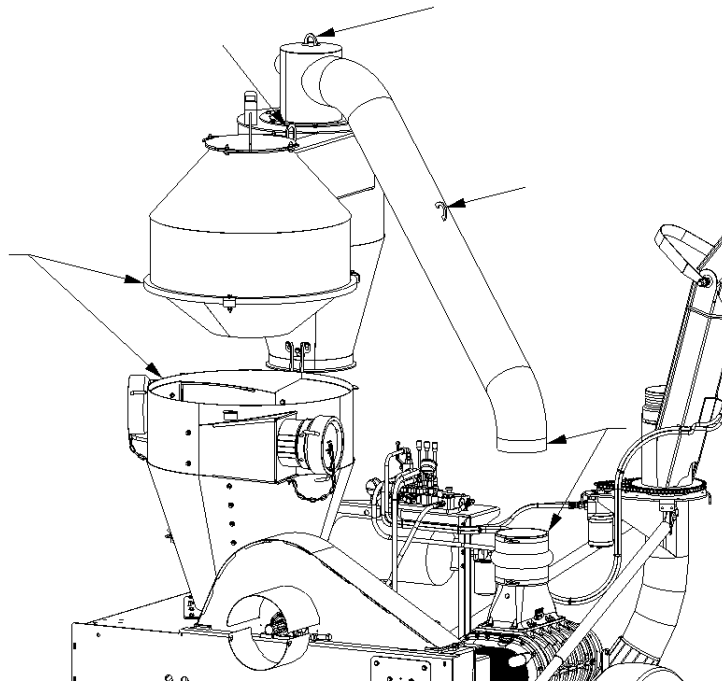

Figure 5-3: Primary AMS lifting points and positioning
- b. Lift the upper portion of the primary AMS into position above the lower portion of the primary AMS and align the blower inlet and primary AMS tube using the lifting eyes identified in **Figure 5-3**.